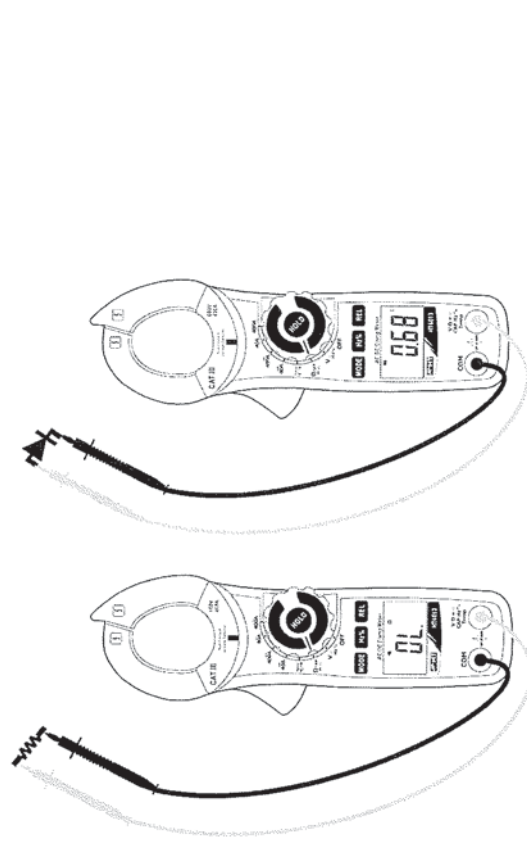

Fig. 7: Use of the clamp for continuity test and diode test
3. Insert the red cable into input terminal **VΩ** or **ΩCAP** and the black cable into input terminal **COM** and carry out the continuity test of the object to be measured (see Fig. 7 – left side). An buzzer sounds when the measured value of resistance is lower than 30Ω.
5. Connect the red lead to the anode of the diode and the black lead to the cathode in case direct polarization measurement is carried out (see Fig. 7 – right side). Invert the position of the leads in case reverse polarization measurement is carried out.